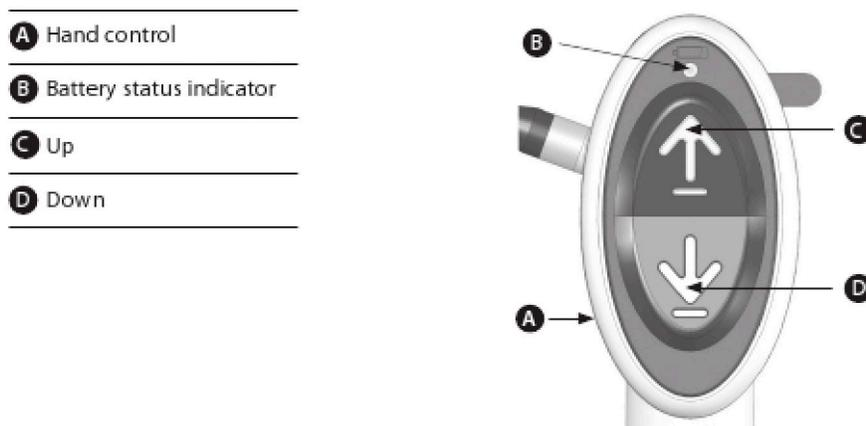

fig 7
2. Always check the battery status indicator on the hand control before using the bath lift (see fig 7). Press the UP button and observe the following guidelines: